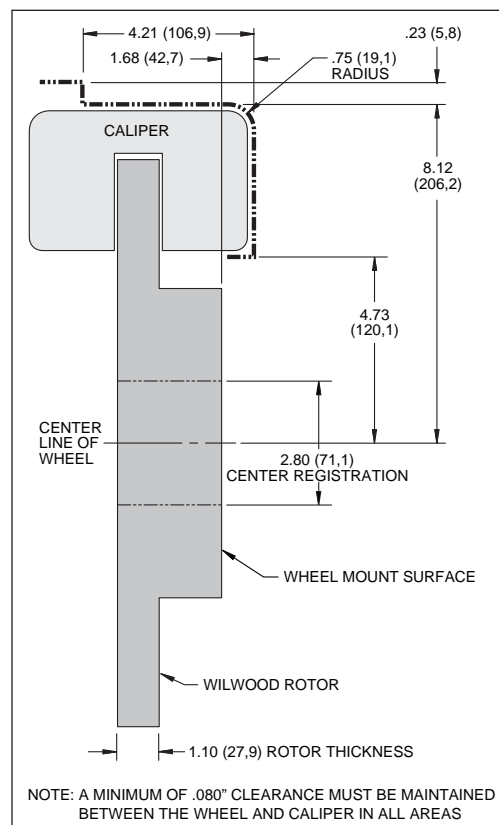

Figure 2. Wheel Clearance Diagram
- Verify your wheel clearance using Figure 2.